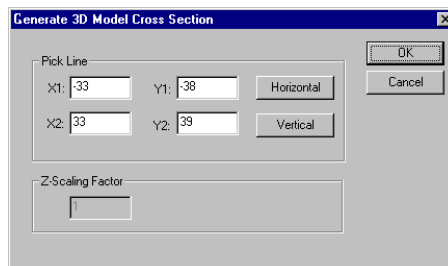

Figure 30: **Generate 3D Model Cross Section** dialog
- ☑ Click the **Cross-section** tool . The **Generate 3D Model Cross-Section** dialog will appear (Figure 30).